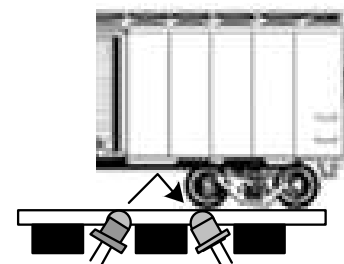

Figure 1
This Infrared (IR) upgrade kit for the *Grade Crossing Pro* (GCP) supplements the original instructions for the GCP. The instructions herein describe the installation of the IR components. Four pairs of Infrared (IR) emitters and detectors are used for bidirectional train detection. Detection is achieved when the IR beam from the emitter reflects off the underside of the train back down to the detector. **Despite the use of infrared components you could still encounter false triggering from overhead lighting. This is usually eliminated with angled sensor mounting (Figure 1) and/or proper sensor sensitivity adjustment (page 2).** This version of the GCP must be powered from either a 7-9V AC or 9-12V DC power source (such as our 12VPSR). Do NOT exceed these limits! The layout of the signals and IR components is illustrated below.
The IR components should be mounted between the rails. Drill two 11/64" holes, through the ballast, roadbed, and sub-roadbed. These holes should be located one tie apart and drilled at approximately a 45 to 60 degree angle from horizontal as illustrated in the side view in Figure 1. The benefit of mounting them at an angle is reduced false triggering from overhead light and increased detection reliability in smaller scales or irregular bottoms on rolling stock. For the smaller scales this drilling may end up hitting the ties. Take your time so you don't mangle them! Insert the leads of one IR emitter (white and black wires) into one of the holes (it doesn't matter which one!) from the top of your layout. Repeat for the IR detector (blue and black wires). The tops of the components should sit no higher than the top of your ballast for optimal IR performance; in some cases (e.g. false triggering) it may be necessary to locate the components a little below the ballast line. You can extend the leads with similar (or larger) wire. We recommend soldering and insulating these connections. We also recommend using terminal blocks/strips since you'll have multiple DC and GND connections to make. Once you have wired the IR components and verified